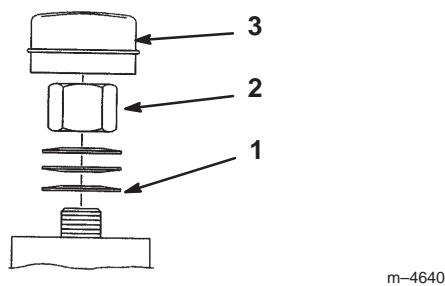

Figure 39
2. Remove dust cap from castor and tighten lock nut (Fig. 39).
3. Tighten until spring washers are flat and then back off a 1/4 turn to properly set the preload on the bearings (Fig. 39).
Important Make sure spring washers are installed correctly as shown in Figure 39.